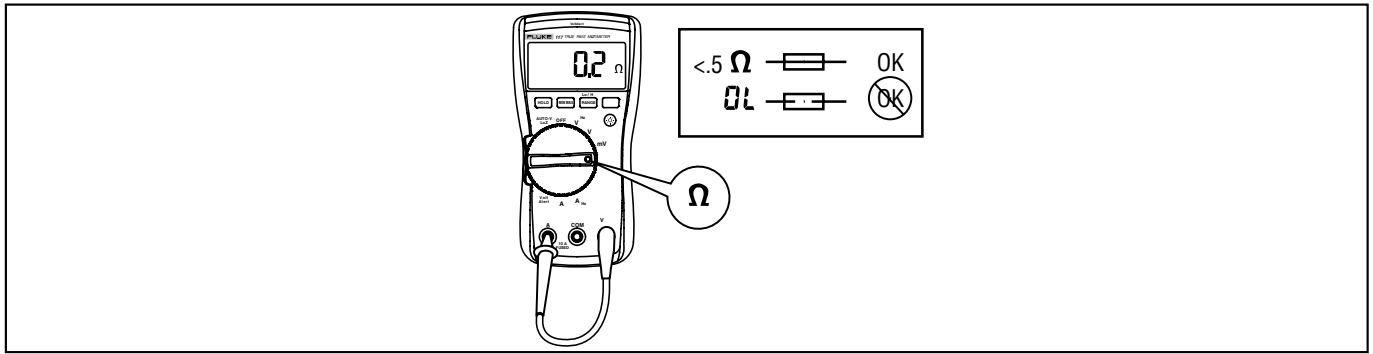

Figure 1. Fuse Testing
2. Plug a test lead into the  $\frac{V}{\Omega}$  jack and touch the probe to the 10A jack, as shown in Figure 1.
If the display shows a resistance value in the range of that shown in Figure 1, the fuse is good.